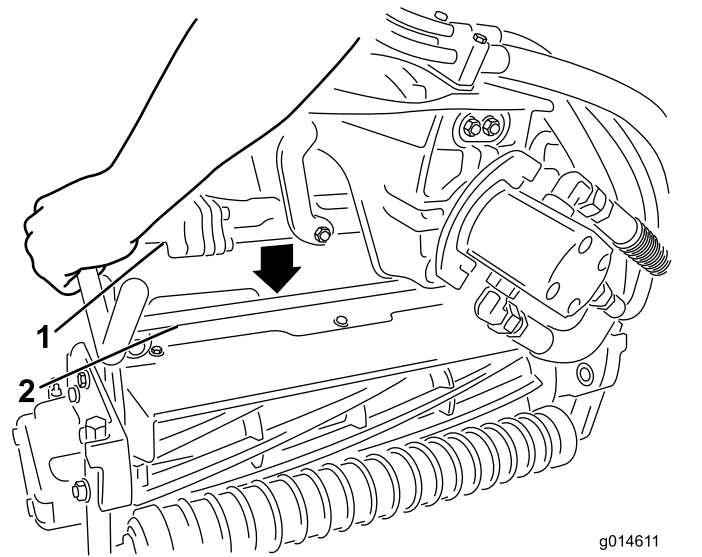
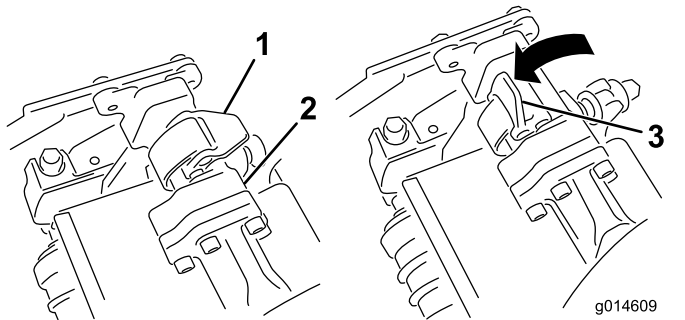

Figure 13
Figure 12
9. With the latches on the suspension-arm bar pointing up (i.e., open) (Figure 12), push the suspension arm down so that the bar fits over the bar across the top of the cutting unit (Figure 13).
10. Close the latches down and around the cutting-unit bar and lock them in place (Figure 12).